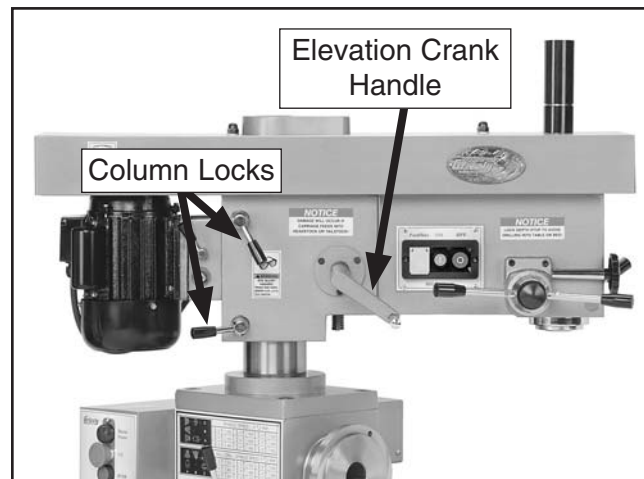

Figure 18. Mill head rotated and elevated.
2. Loosen both column locks (see **Figure 18**).
3. Mount the crank handle on the head elevation axle, as shown in **Figure 18**, then use it raise or lower the mill head.